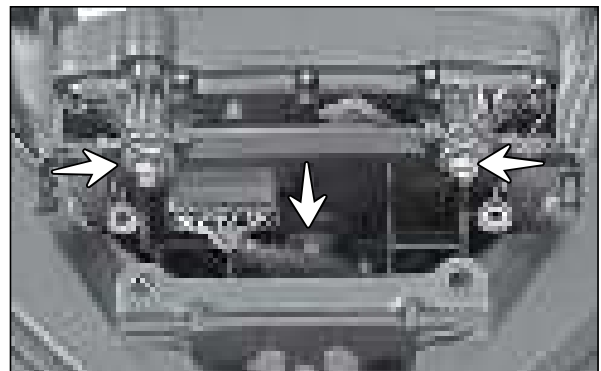

Fig. 5.82
- Remove the hexagonal nut (M6 - 3 Nos.) along with plain washers from the mounting of speedometer assembly. (Fig. 5.82)